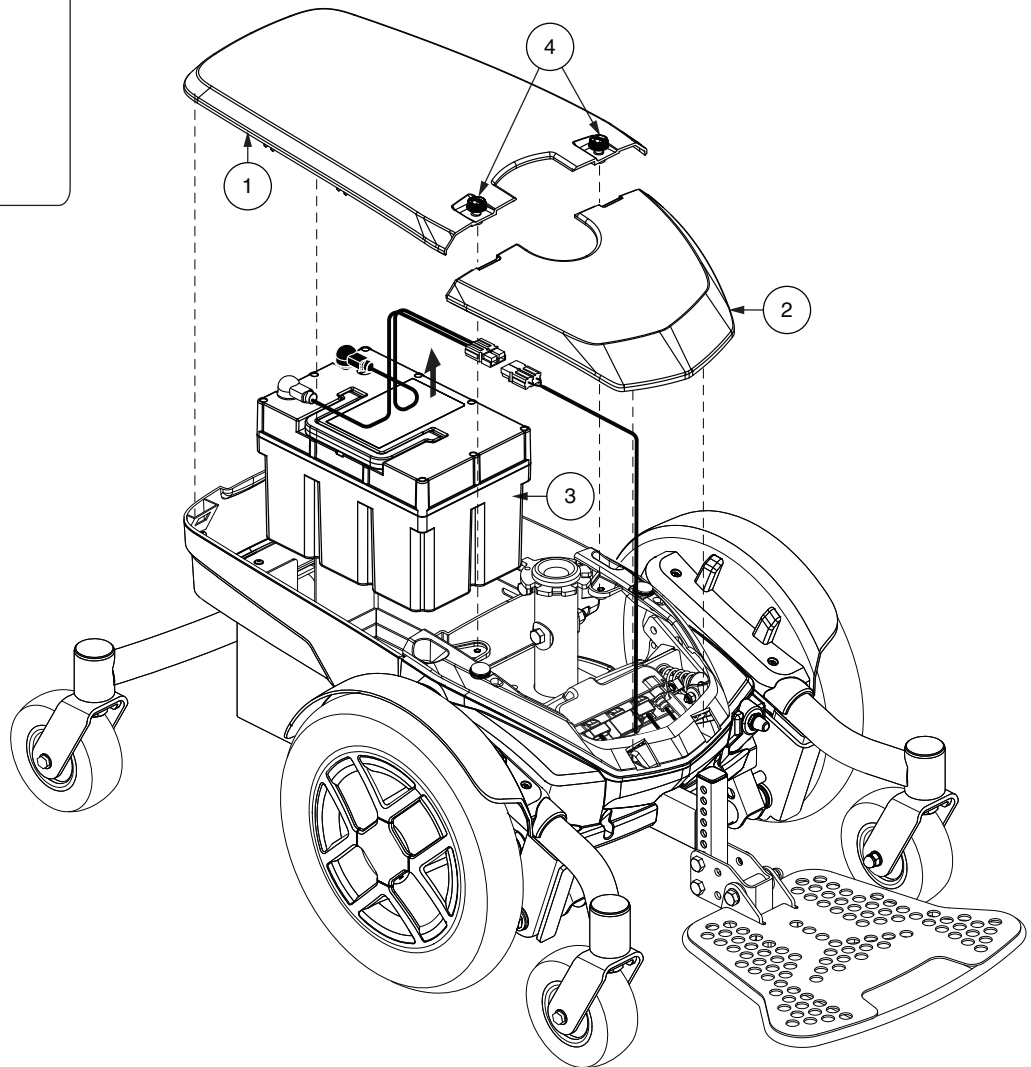

Figure 20. Lithium Battery Installation (Seat Removed for Clarity)
5. If equipped with two (2) SLA batteries, disconnect the rear battery harness from the power base and remove the battery. Slide the front battery rearward, disconnect the front battery harness from the power base, and remove the front battery. **See figure 19.** If equipped with a lithium battery, disconnect the battery harnesses and remove the battery. **See figure 20.**
8. For installation of a new lithium battery, place the battery into the power base. Make sure that the terminals are facing the rear of the power base. **See figure 20.** Connect the rear battery harness to the power base.